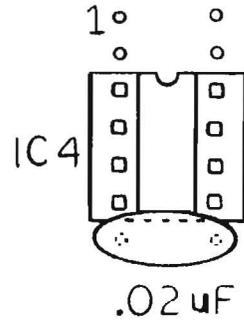

Fig. 3
- 5. Install the other .02uF cap in vacant holes 7 and 8 of IC4. See Figure 3, below.